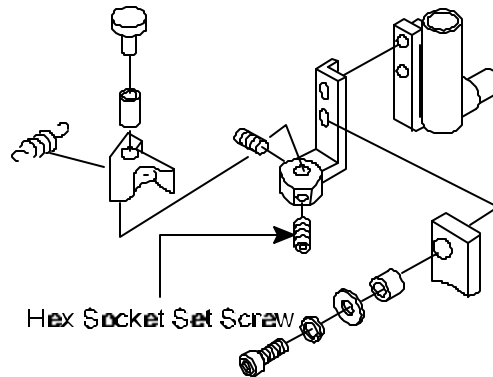

Figure 2
- Using a 2 mm Allen Wrench, **loosen** hex socket set screw. See *Figure 2*.